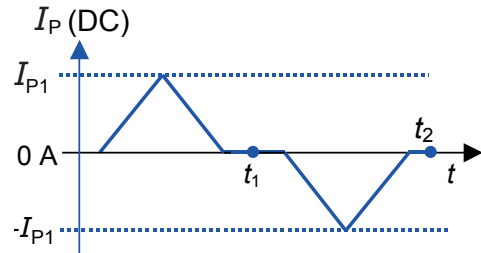

Figure 17: Current cycle used to measure magnetic and electrical offset (transducer supplied)
- or in a known magnetization state, like in the current cycle shown in figure 17.